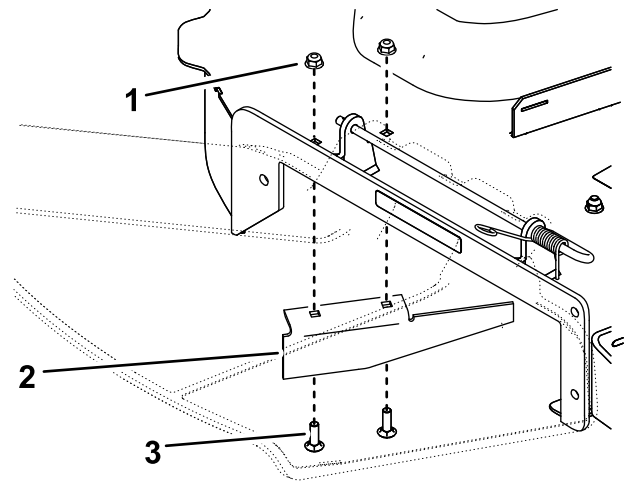

Figure 8
1. Remove the 2 bolts and 2 nuts securing the existing discharge baffle to the deck and remove the discharge baffle (Figure 8).